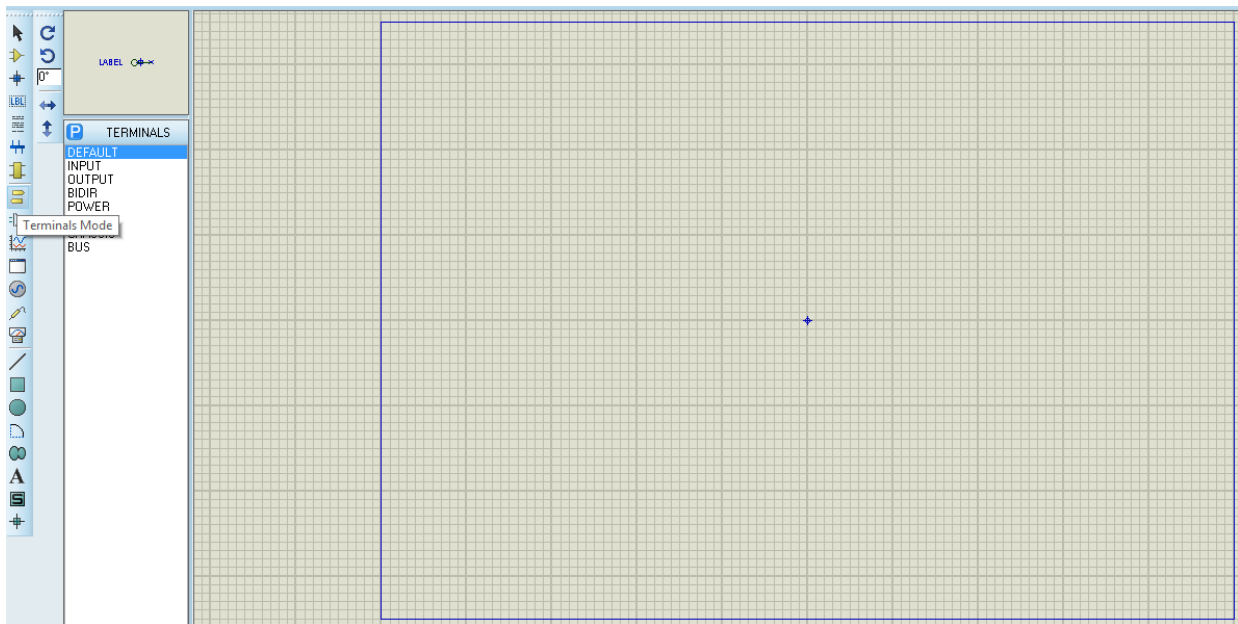

Figure 3: Proteus ISIS Terminal Mode
5. You can get POWER and GND from the “terminal mode” components as in Figure 3.